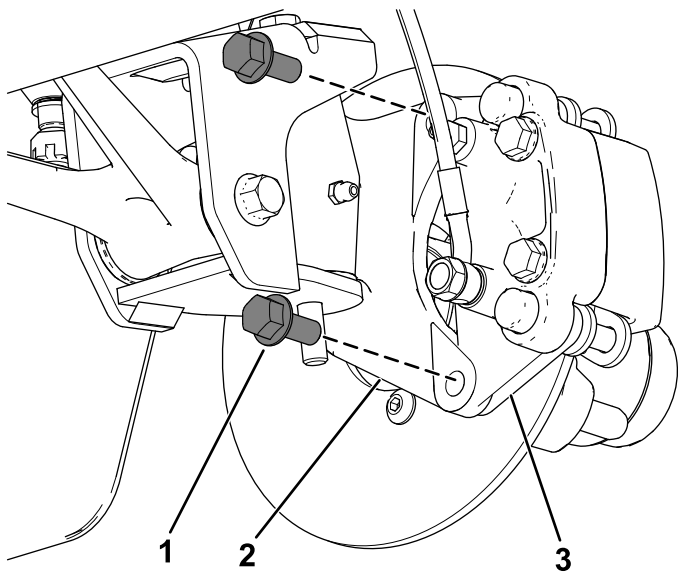
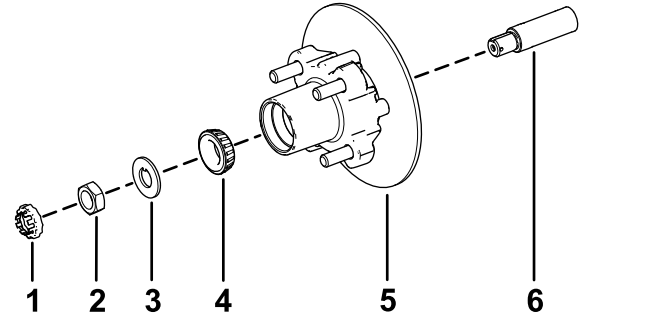

Figure 36
Figure 40
3. Remove the flange-head bolts (3/8 x 3/4 inch) that secure the bracket for the brake assembly to the spindle and separate the brake from the spindle (Figure 36).
1. Apply a light coat of the specified grease to the spindle (Figure 40).
2. Assemble the hub and rotor onto the spindle with the rotor inboard (Figure 40).
3. Assemble the outboard bearing onto the spindle and seat the bearing to the outboard race (Figure 40).
4. Assemble the tab washer onto the spindle (Figure 40).
5. Thread the spindle nut onto the spindle and tighten the nut to 15 N·m (11 ft-lb), while rotating the hub to seat the bearing (Figure 40).
2. Align the brake pads to either side of the rotor (Figure 36) and the holes in the caliper bracket with the holes in the brake mount of the spindle frame (Figure 40).
3. Secure the caliper bracket to the spindle frame (Figure 36) using the 2 flange-head bolts (3/8 x 3/4 inch).